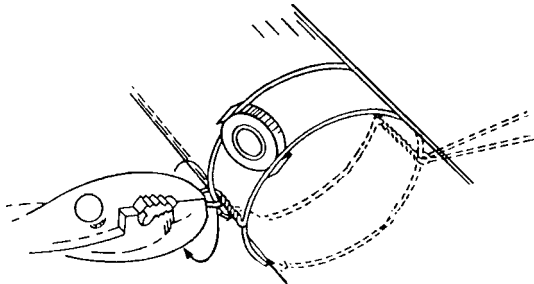

Figure 4
Step 5: Tape the strip around the drive shaft at the location chosen for the magnets. Remove backing paper from double sided foam and press onto the magnet. Remove remaining strip of backing paper and place the magnet or magnets on the cleaned drive shaft/axle, not the paper. Be sure magnet tabs are lengthwise on the shaft. See Figures 4 or 9. Then remove the paper strip.
Step 6: While rotating the shaft, carefully snap one wire into one set of magnet slots. Loosely wrap the wire to hold it in place. Snap the second wire into the remaining slots making sure the ends are nearly opposite the first wire, as shown in Figure 4 or 11.
Step 7: Carefully pull wires tight, and twist with a pair of pliers, pulling down as you twist to avoid breaking the wire. Now take the loose ends and wrap through the opposite wire, and twisting as above to remove any excess slack, see Figure 4. This procedure will secure the magnets onto the drive shaft. The double-faced tape is used to temporarily hold the magnets until the wire is attached.